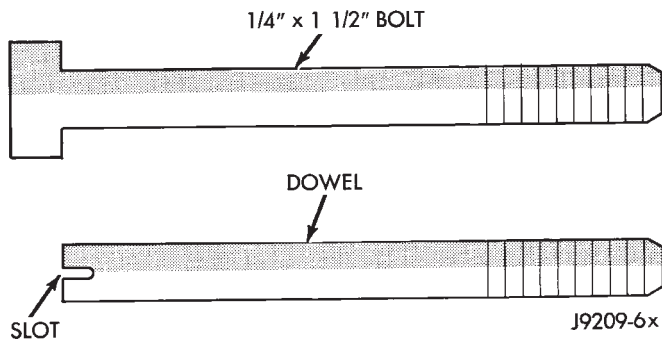

Fig. 58 Fabrication of Alignment Dowels
(1) Clean the block and pan gasket surfaces.
(2) Fabricate 4 alignment dowels from 1/4 x 1 1/2 inch bolts. Cut the head off the bolts and cut a slot into the top of the dowel. This will allow easier installation and removal with a screwdriver (Fig. 58).